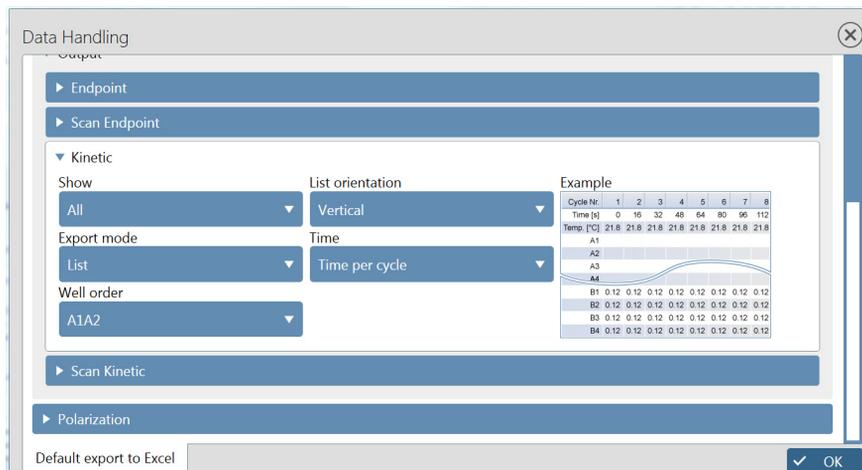

Figure 27. Exporting a Data File from SparkControl Software. Choosing the Kinetic Settings.
- 5 Click on **Kinetic** to expand the options. See **Figure 27**.